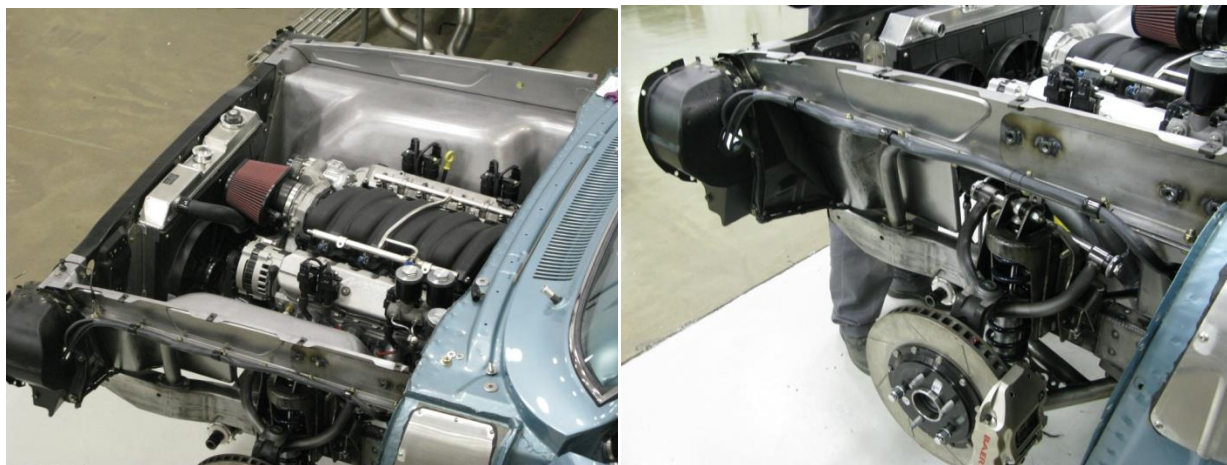

Figure 1: Inner fender attached to firewall and core support (1962-1965 shown)
- c) Use the included 3/8-16 x 3/4" button head cap screws, 3/8-AN Flat Washers, and 3/8-16 Nylock Nuts to finish fastening the inner fender adapter panel to the lower inner fender. The screw heads should face **down** (Nuts on top) for these screws as well. Leave the two sections slightly loose for final adjustment on the car. Route any lines or wires you wish to hide inside of the inner fender at this time. See *Figure 1*.